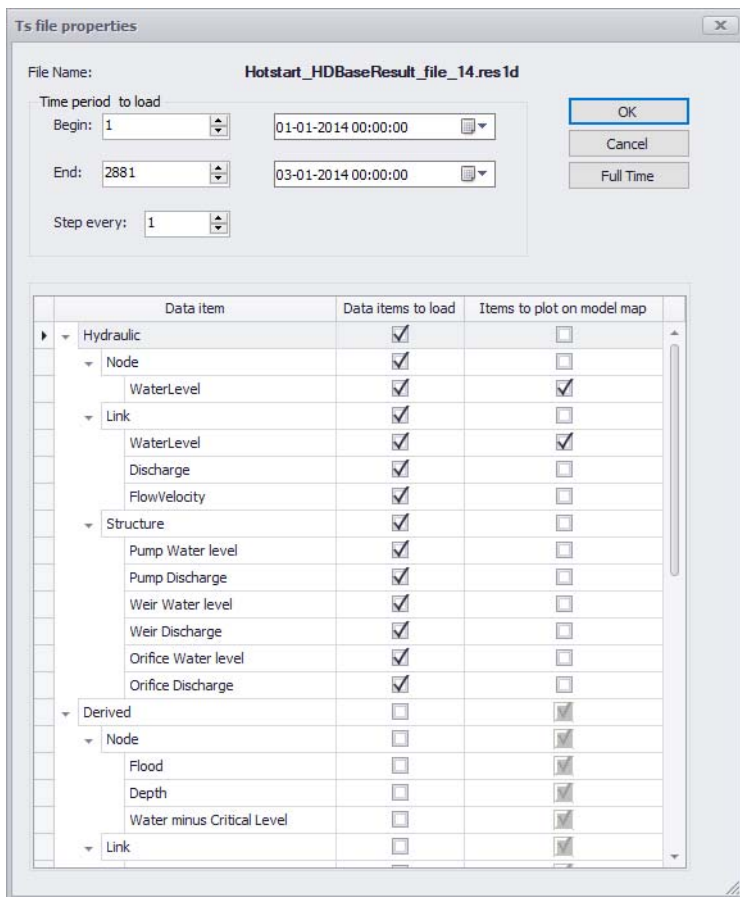

Figure 20.4 Example of the result file data selection dialog
- A dialog with choices of data types to load from the result appears. The items displayed are dependent on the type of result file being loaded. An example is shown in Figure 20.4.